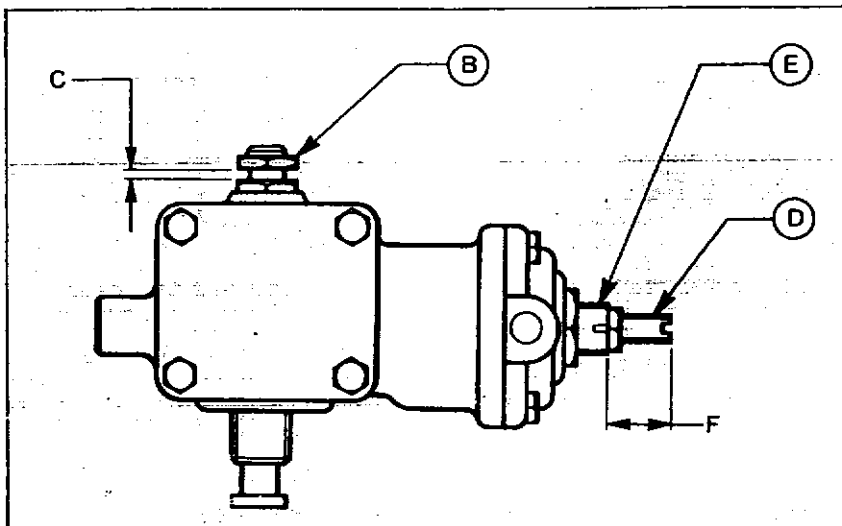

Fig. 64 Recalibration
- (a) Adjust the maximum fuel screw 'B' Fig. 64, to give an average delivery at 1000 r.p.m. of 17.9 to 18.1 c.c.'s (Hartridge 1100) or 17.3 to 17.5 c.c.'s (Hartridge 650) with 0.85 bar (0.86 kgf/cm² or 12.3 lbf/in²) boost pressure.
- (a) Set the gap between head of maximum fuel screw 'B' Fig. 64 and locknut to 2.00 ± 1.00 mm. (0.080 ± 0.040 in.).